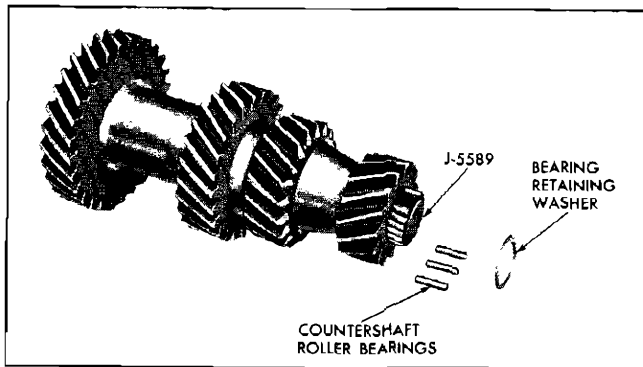

Fig. 7A-20 Installing Roller Bearings in Countershaft
14. Install sleeve, hub, and synchronizing ring assembly on mainshaft, clutch sleeve shoulder to rear, and secure with clutch hub retaining snap ring (Fig. 7A-17).
2. At one end of countergear, install one row of 20 roller bearings, laying them over bearing loader J-5589 and seating them against bearing spacer (Fig. 7A-20).
8. Place smaller bronze thrust washer against rear of countershaft, tangs facing gear and seated in grooves. Retain with grease (Fig. 7A-16).
1. Install oil retaining washer (Fig. 7A-14), on main drive gear, depressed side up.